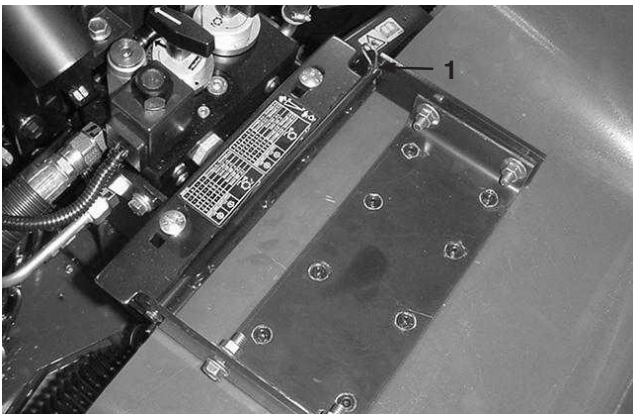

Figure 42
2. Remove the cotter pin securing the hood pivot to the mounting brackets (Fig. 42).